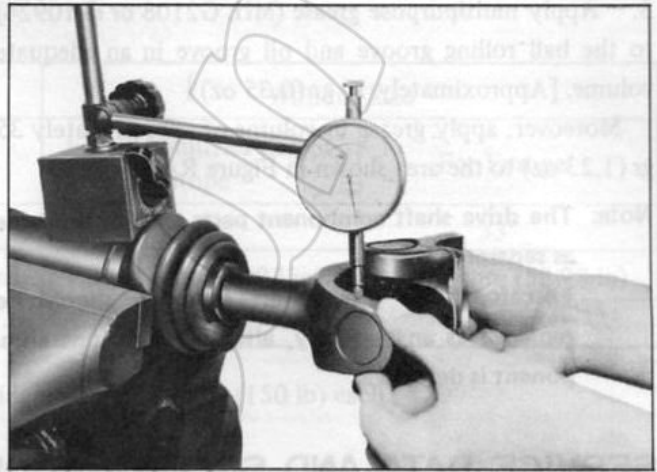

Fig. RA-28 Measuring drive shaft play
6. Measure the drive shaft play as shown in the Figure RA-28. If the play exceeds 0.1 mm (0.0039 in), replace the drive shaft assembly. Be sure to measure the drive shaft play with the drive shaft compressed completely.